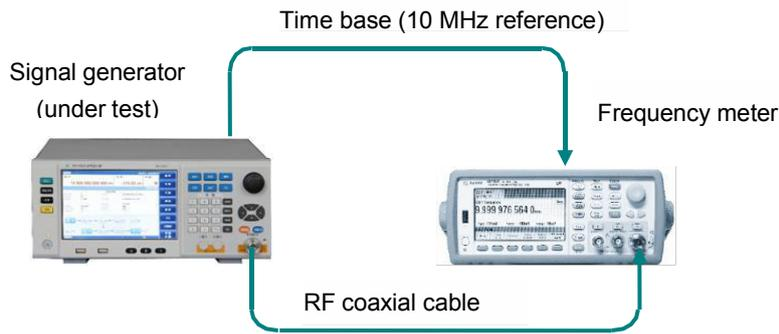

Figure 7.2 Frequency resolution test
1. Connect equipment as shown in Figure 7.2, start up the instrument, and warm it up for at least 30 min.